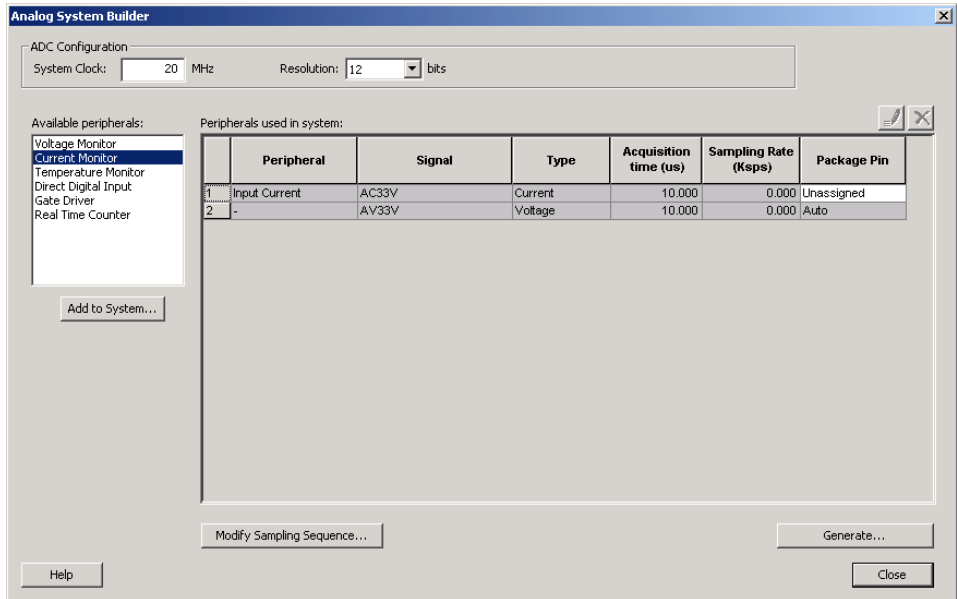

Figure 1-8. Analog System with Current Monitor Added
- Click OK. The Analog System Builder now lists the current monitor in your system peripherals (Figure 1-8)